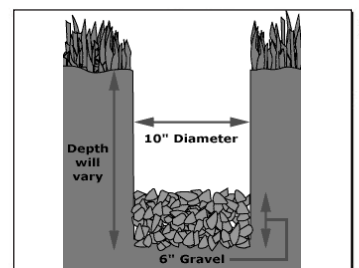

Figure 6
**Note:** Post should be filled inside to ground level. (See fig. 6) Allow time for concrete to dry before installing panels.